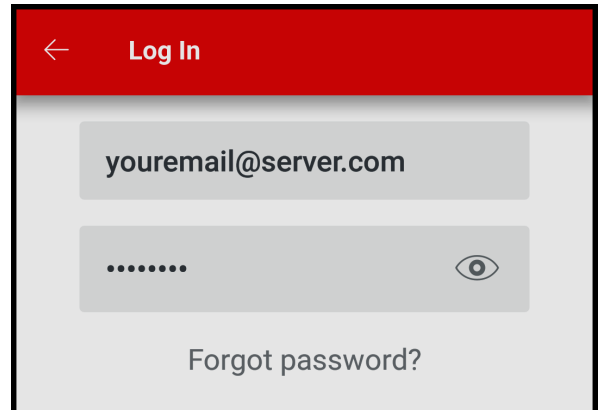

Figure 78. Log in the Raymote Mobile App
From the link in the invitation email, the Raymote user then creates a secure user login with a valid user name (your email) and password. See **Figure 78**.
3. Open the Raymote mobile app and log in with your user name and password. See **Figure 78**.